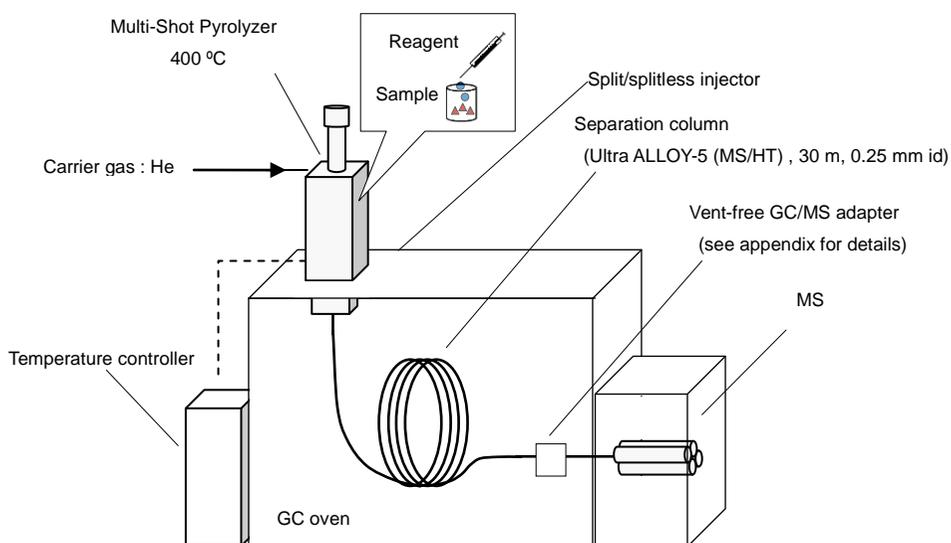

Fig. 8.1 Instrument configuration for Py-GC/MS
The instrumentation for THM-GC/MS is shown in Fig. 8.1. Tetramethylammonium hydroxide, a methylating agent, is added to a sample cup containing a sample. The cup was loaded onto a Multi-Shot Pyrolyzer and was dropped (free fall) into the center of the furnace set at 400°C for instant reactive pyrolysis. Pyrolyzates formed are introduced into the split/splitless injector of GC, split by a ratio ranging from 1/10 to 1/100, then are introduced into a separation column, and separated in a programmed temperature mode. Lastly, they are detected by a mass spectrometer (MS).